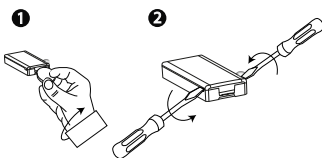

Figura 4: Device cover removal
1. Quite la tapa. Ver a Figura 4.